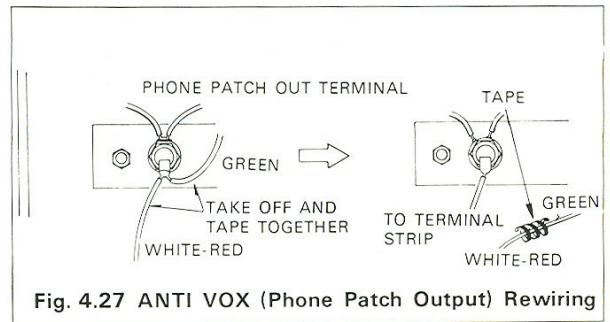

Fig. 4.27 ANTI VOX (Phone Patch Output) Rewiring
- iv) Rewire the PHONE PATCH OUT terminal as shown in Fig. 4-27. Tape the leads for proper insulation.